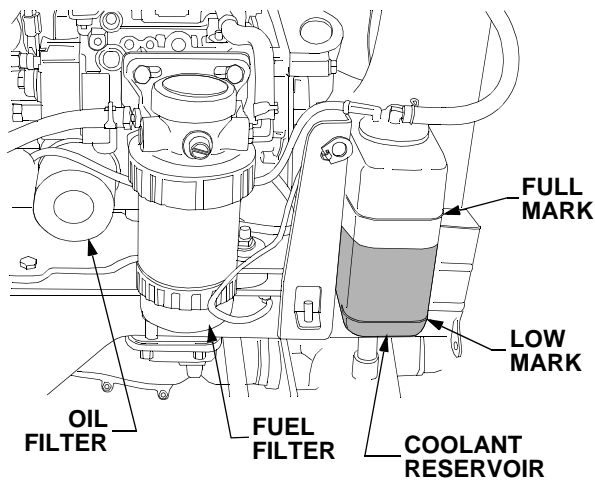

Figure 56
- Remove the filter by turning it counterclockwise using an automotive type filter wrench to loosen. See Figure 56.
- Raise the tractor hood and check the coolant level in the overflow reservoir on the *right* side of the engine. Refer to Figure 56.